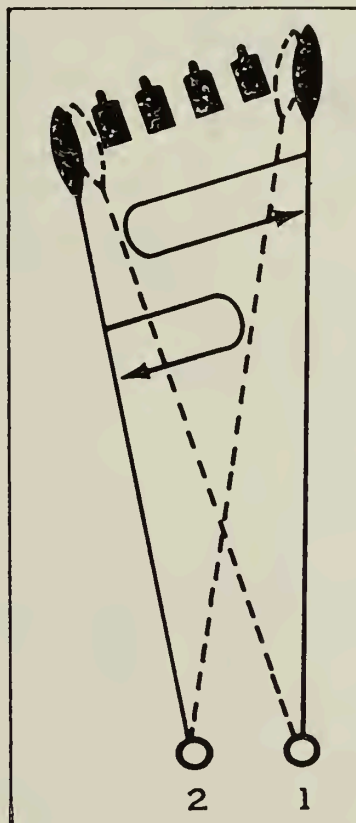

Figure 116. --Oblique Target 50 Mils or Less in Width.
a. Oblique targets require successive changes in both direction and elevation. They are engaged with traversing and searching fire. To engage an oblique target, the guns open and adjust their fire on their respective flanks, as if engaging a wide target. The range is announced as prescribed for engaging a deep target. The gunners traverse in two mil increments and apply enough search to keep the center of impact on the base of the target. If the width of the target exceeds 50 mils, it should be divided. If its flanks are indistinct, a reference point may be used to designate them. The engagement of an oblique target is exactly the same as the engagement of a wide target, except that the gunners search as well as traverse between bursts. (See figs. 116 and 117.) An example of a fire command to engage an oblique target less than 50 mils wide and less than 200 meters deep is: